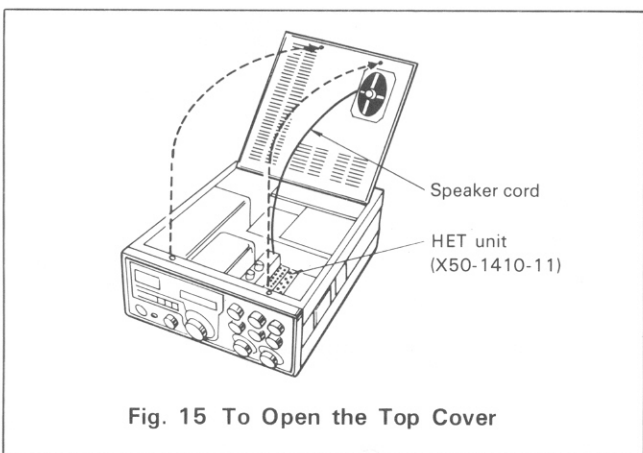

Fig. 15 To Open the Top Cover
1. Pull up the two latches and open the top lid. (see Fig. 15.)